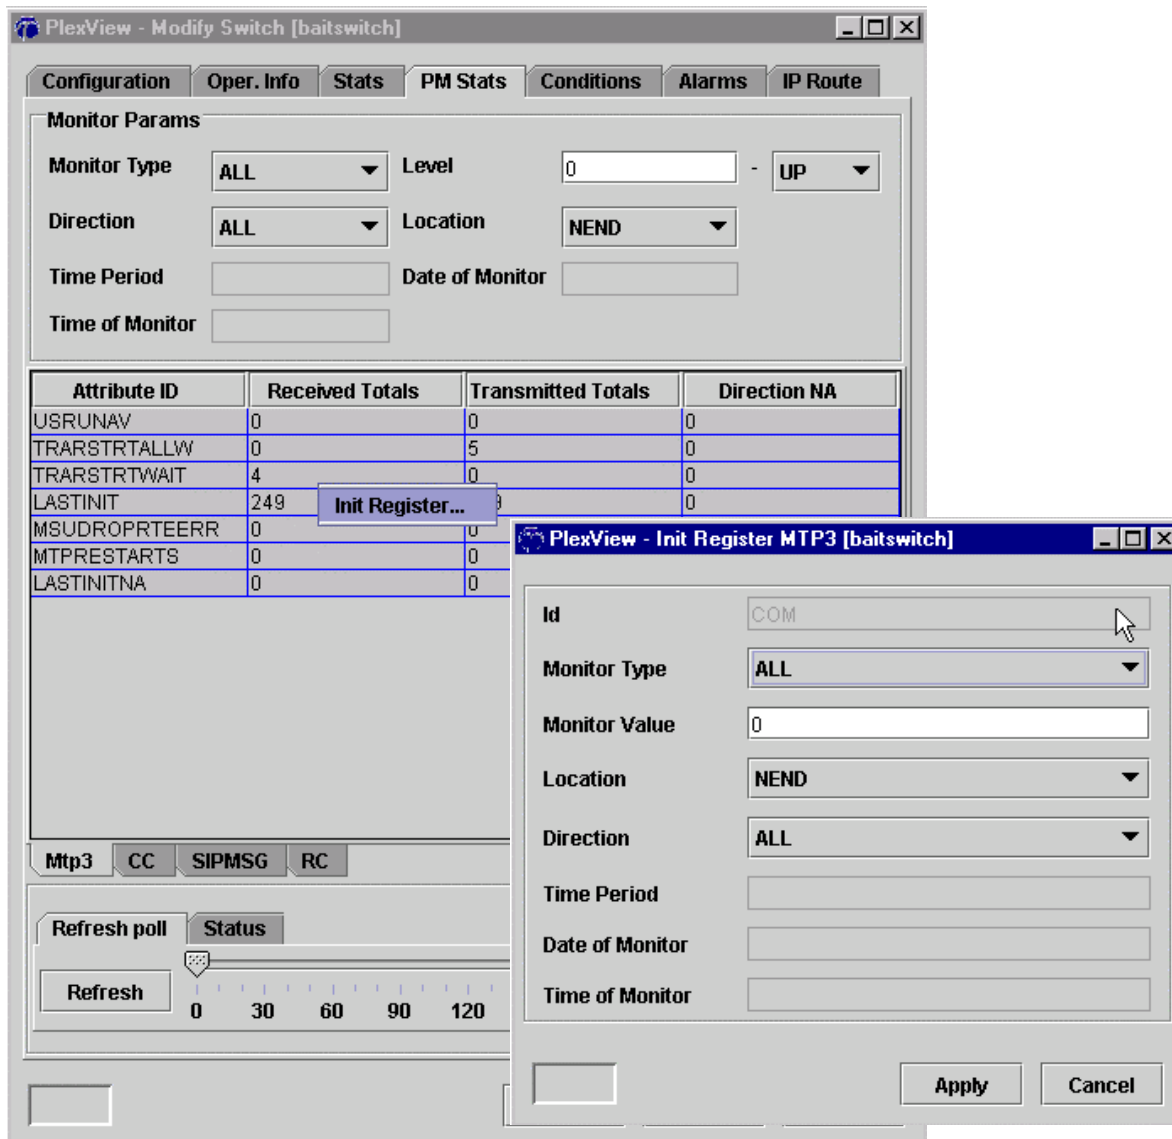

Figure 5. Initialization of Registers
17. Clear or initialize the MTP3 signaling point counters. Right-click a received status item and then click the *Init Register* block. Make required changes in Init Register MTP3 screen and then click *Apply*. See Figure 5.